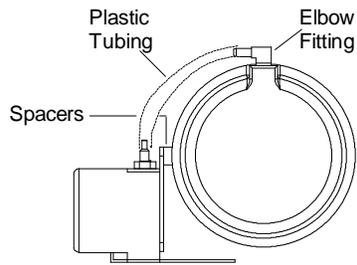

Figure 2: V-3000-8001 Positioner Mounting
2. Remove the straight barbed fitting on the actuator and replace it with the elbow fitting. See Figure 2.
8. Using plastic tubing, connect the actuator to the Output "O" port on the positioner. See Figure 2.